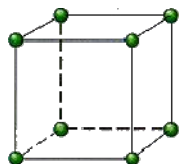

Figure 1
- The dots in Figure 1 represent the centers of the atoms.